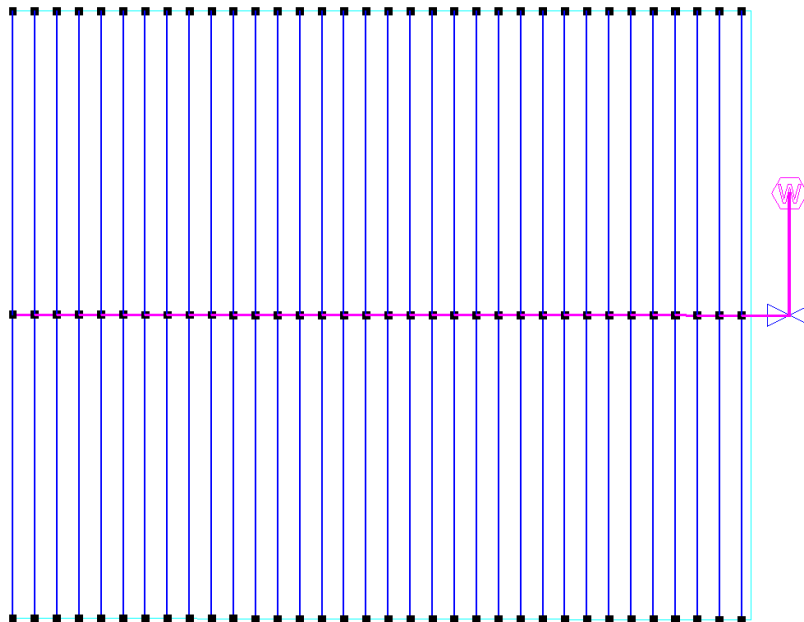

Figure 4-31
8. Now select *Mainline/Pipe*. Leave the pipe as **Computer Selected** and the “*Depth*” as **0**. Click **[OK]**. Connect the mainline pipe to the control valve with a left-click and draw upwards for approximately **33ft (10m)**. Left-click to place and then *Right-click/Restart*. Select *Mainline/Water Supply* and place on the end of the mainline pipe with a left-click as in Figure 4-31. Leave the Water supply details as the defaults; simply click **[OK]**. Now select *View/Zoom All*.